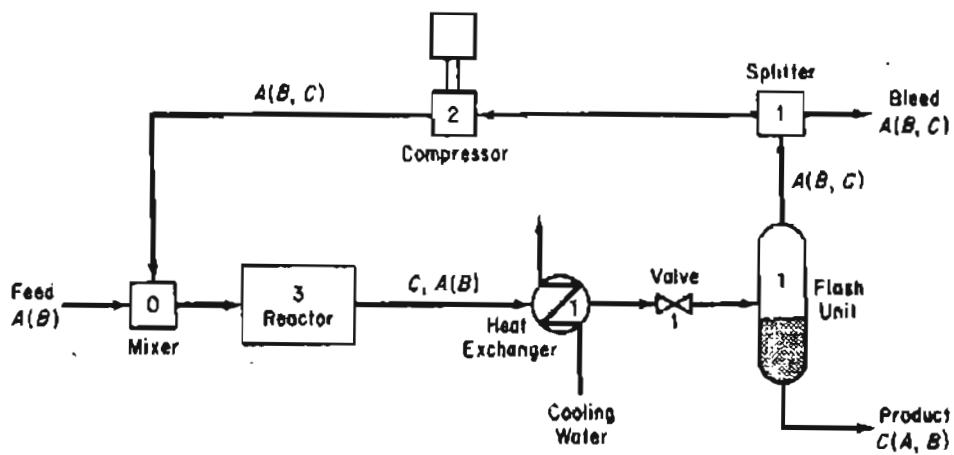

Figure P30.12
30.12 The flowsheet (Figure P30.12) has a high-pressure feed stream of gaseous component A contaminated with a small amount of B. It mixes first with a recycle stream consisting mostly of A and passes into a reactor, where an exothermic reaction to form C from A takes place. The stream is cooled to condense out component C and passed through a valve into a flash unit. Here most of the unreacted A and the contaminant B flash off, leaving a fairly pure C to be withdrawn as the liquid stream. Part of the recycle is bled off to keep the concentration of B from building up in the system. The rest is repressurized in a compressor and mixed, as stated earlier, with the feed stream. The number of parameters/variables for each unit are designated by the number within the symbol for the unit. How many degrees of freedom exist for this process?